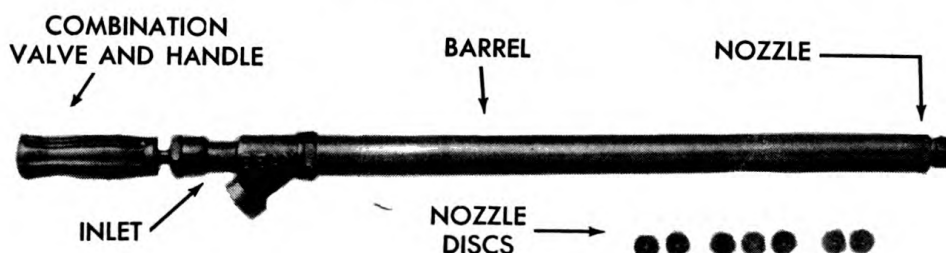

Figure 5—Spray Gun
d. **Spray Gun.**—The spray gun (figure 5) is designed to permit any variation in adjustment. The softest and finest mist or fog, or a pencil